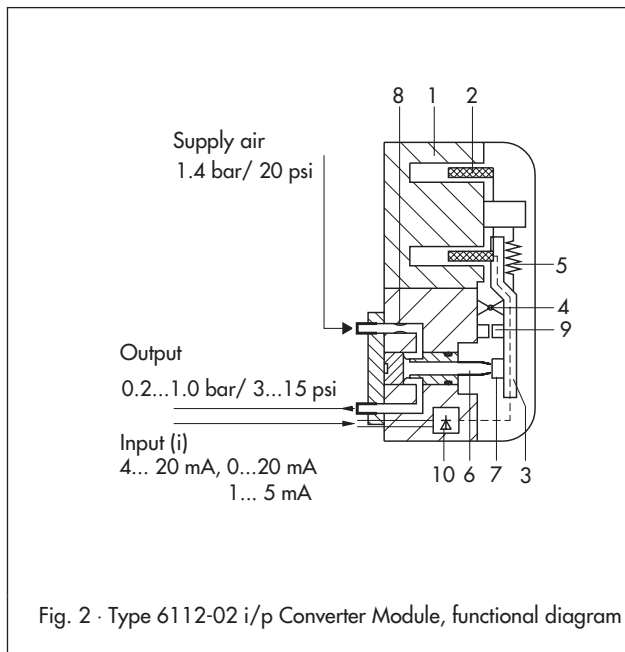

Fig. 2 · Type 6112-02 i/p Converter Module, functional diagram
**Type 6112-02 i/p Converter Module (Fig. 2)**